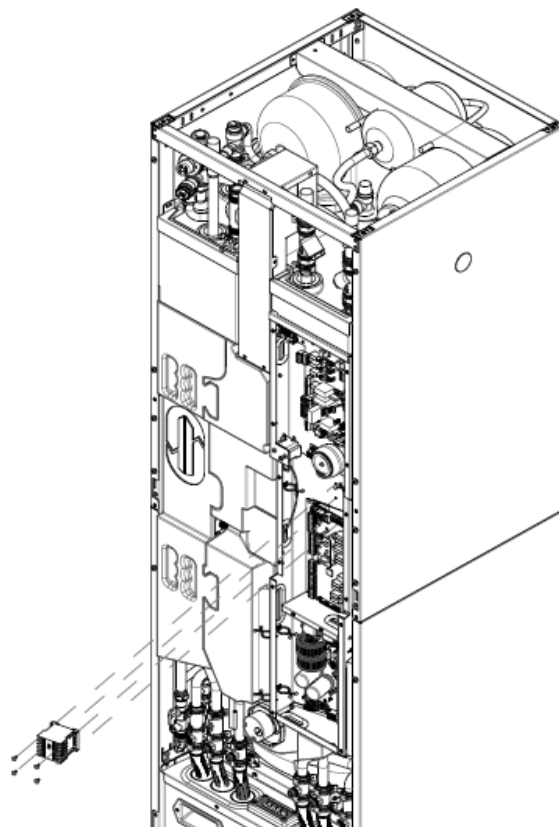

Fig. 109 : Contactor
3. Remove the wiring box covers exposing the PCBs see Fig. 109.
5. Locate and detach contactor removing the four screws see Fig. 109.